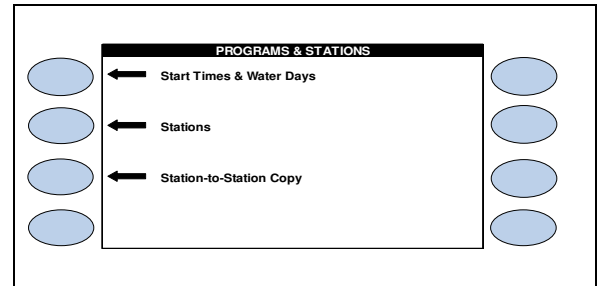

Figure 8
The PROGRAMS & STATIONS screen (Figure 8).
13.  Press the **STATIONS** Menu key (Figure 8).